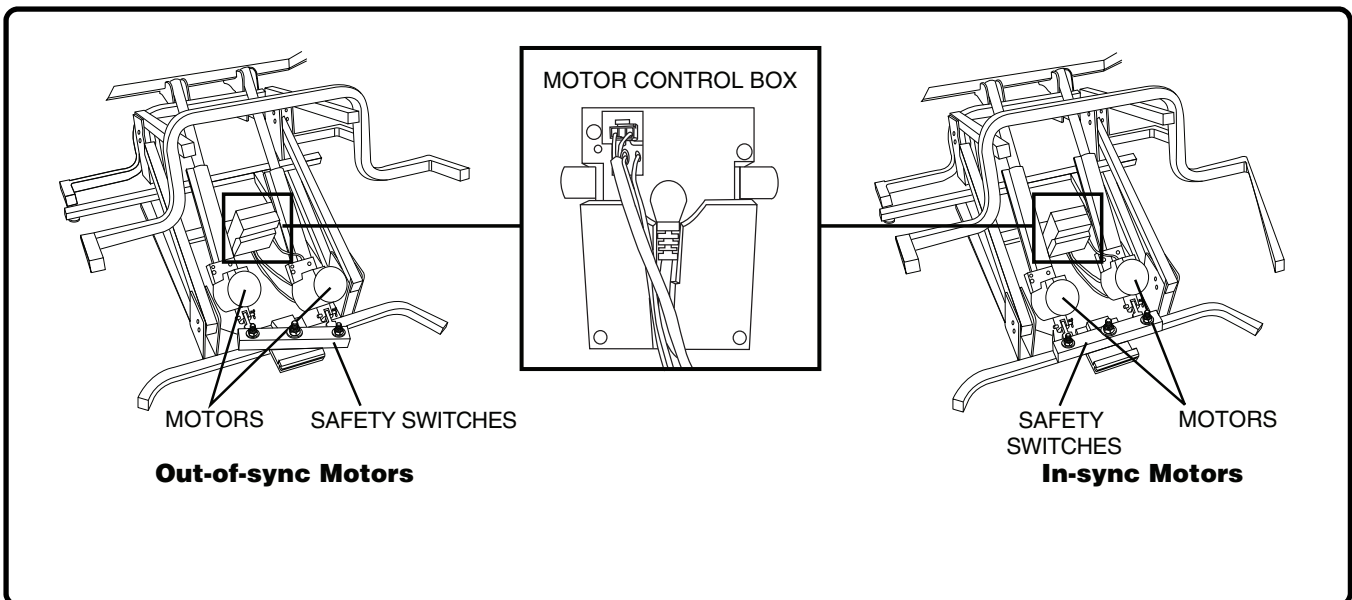

Figure 6.1 Dual Motor Timing
1. Activate the hand control on the lift chair. If there is no movement in either direction, check if the motors are out-of-sync and that the pressure-sensitive safety switch has been activated. Out-of-sync motors will show one motor extended farther than the other and a pinched safety switch (**Fig. 6.1**).
2. If the motors are out-of-sync, disconnect one of the two red safety switch plugs from the motor control box (**Fig. 6.1**).
3. Activate the UP position on the hand control until your chair reaches the full lift position. This will reset the motor position and correct the timing (**Fig. 6.1**).
4. Reconnect the red safety switch plug into the motor control box (**Fig. 6.1**).